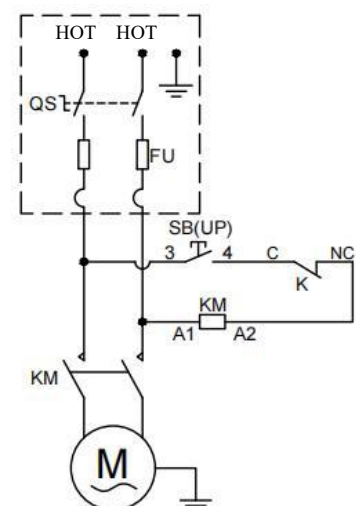
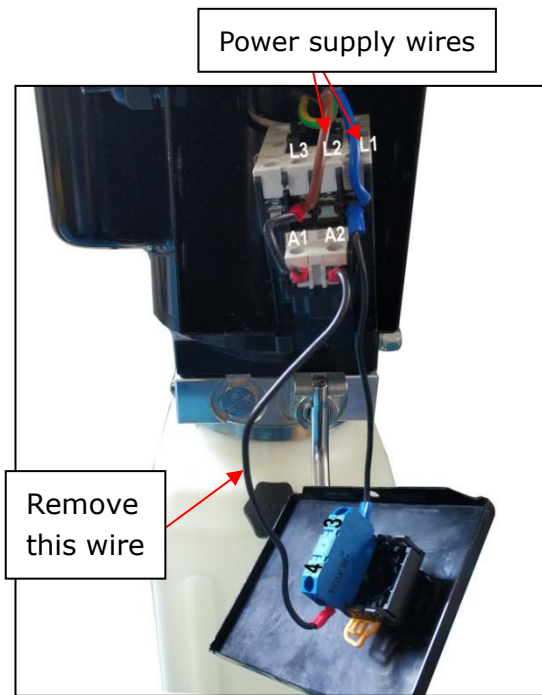

Fig.40
Fig. 41
2. Connecting limit switch wire: remove the short wire connecting terminal 4# of control button and A2 of AC contactor firstly (See Fig.40), then according to the wire number of the limit switch, connect them respectively to terminal 4# of control button and A2# of AC contactor. (See Fig. 41)